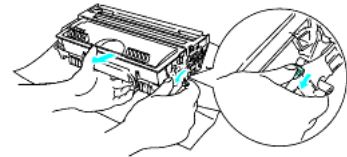

Fig 3
3. Pull down the blue lever on the right hand side to unlock and lift out the toner (Fig 3)